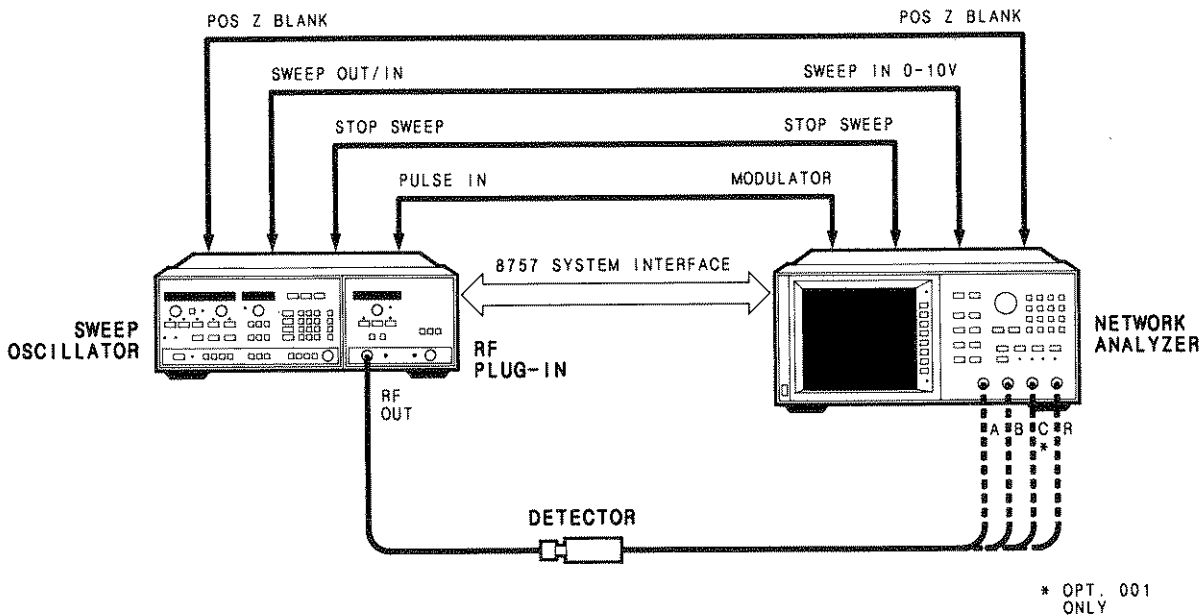

Figure 4-1. Dynamic Range Test Setup
1. Connect the equipment as shown in Figure 4-1, with the detector connected to the A input of the HP 8757A. On the HP 8757A, press **[PRESET]** to preset both the HP 8757A and 8350B. The HP 8757A is preset automatically to channel 1 and input A.